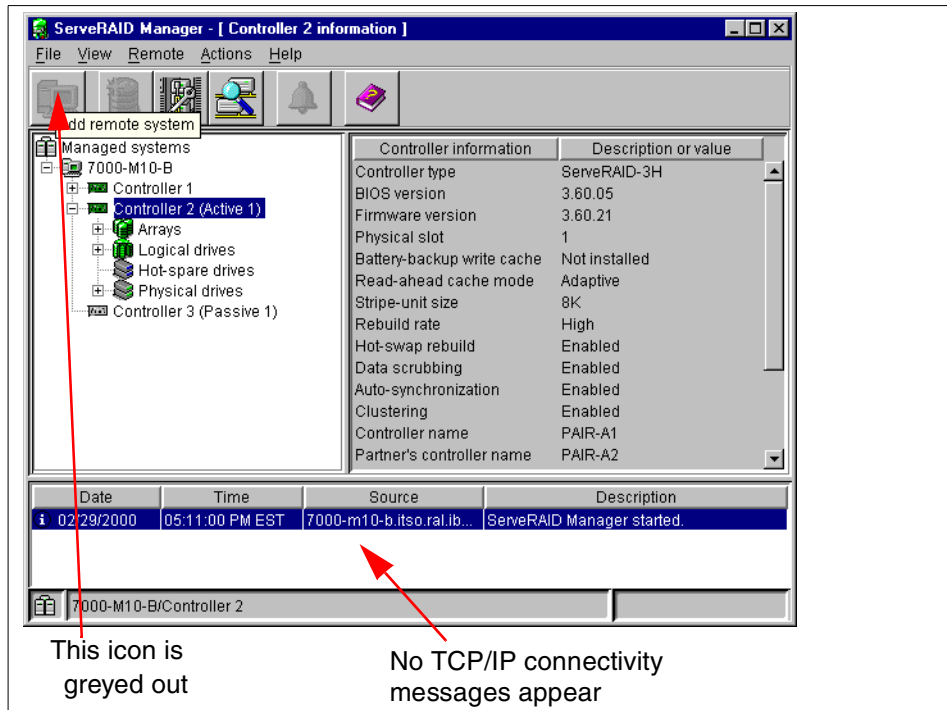

Figure 74. Netfinity Director ServeRAID Manager
**Note:** When launching ServeRAID Manager from within the Netfinity Director, you will only be able to manage the ServeRAID adapters in the currently selected system. As you can see in Figure 74, the **Add remote system** icon